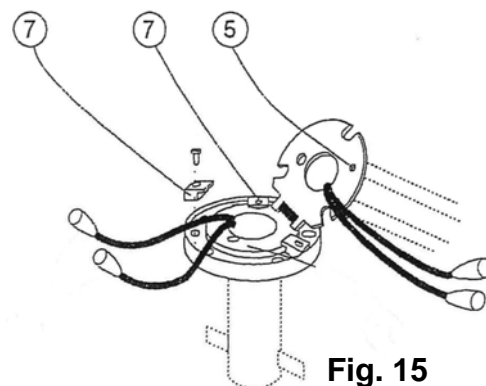

Fig. 15
- Hold the mast vertically and release the securing screw (5) (Fig. 15).
- Remove the revolving holders (7), place them in a plastic bag and store them in the ground socket.
- Screw the hinged disc and the re-lowered wraparound ring with the fixing crosspiece (2).
- Close the ground socket with winter (1) cover and screws.
- Pre-spread the shade by loosening cloth and roof struts outwards (Fig. 15).
- Turn the crank handle (1) in a clockwise direction to open the sunshade (the gear brake will keep the sunshade taut even after the crank handle has been removed).